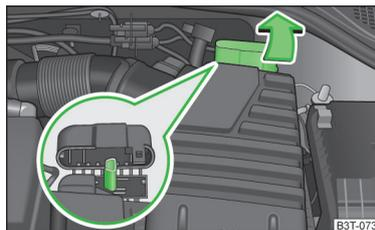

Fig. 186
On vehicles with the vehicle battery in the boot, the positive terminal of the battery supplying the power can only be connected to the jump-starting point in the engine compartment of the vehicle being started by means of a jump-start cable › Fig. 186.
- › Open the protective cap of the jump-starting point in the direction of the arrow › Fig. 186.